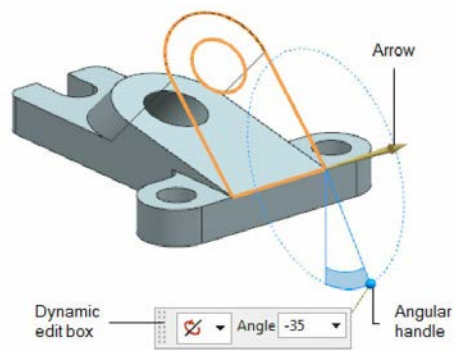

Figure 13-102 Common edge selected to move the inclined face
- b. Modify the angle between the inclined face and the vertical face using the **Move Face** or **Angular Dimension** tool, refer to Figure 13-102.
3. Select the **Angle** option from the **Motion** drop-down list of the **Transform** rollout in the dialog box; the **Inferred Vector** button is activated. Select the common edge between the angular face and the vertical face; an angular handle and an arrow are displayed. Reverse the direction of the arrow, if required, refer to Figure 13-102. Click on the angular handle; the dynamic edit box is displayed.
4. Enter **-35** in the dynamic edit box and press ENTER, refer to Figure 13-102. Next, choose the **OK** button from the **Move Face** dialog box.